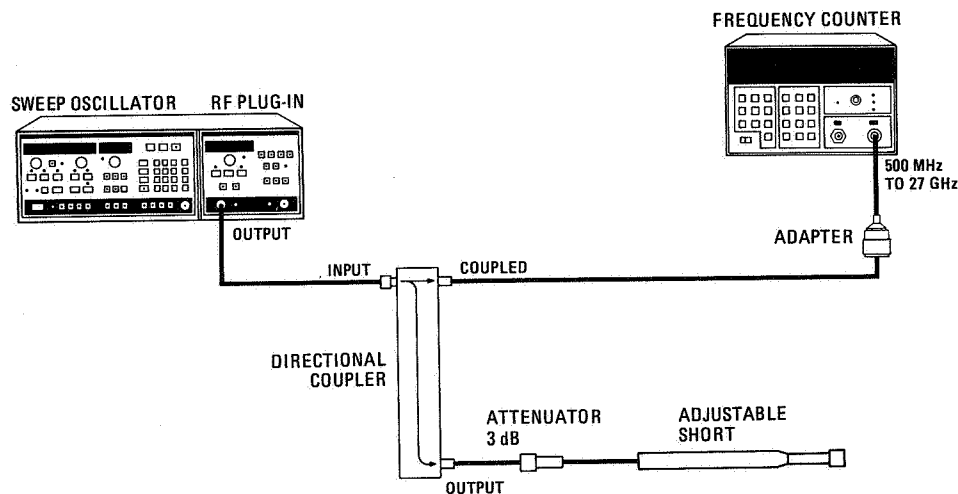

Figure 4-6. Frequency Change with 3:1 Load SWR Test Setup
12. Connect equipment as shown in Figure 4-6. Press the 8350A INSTR PRESET key then the CW key.